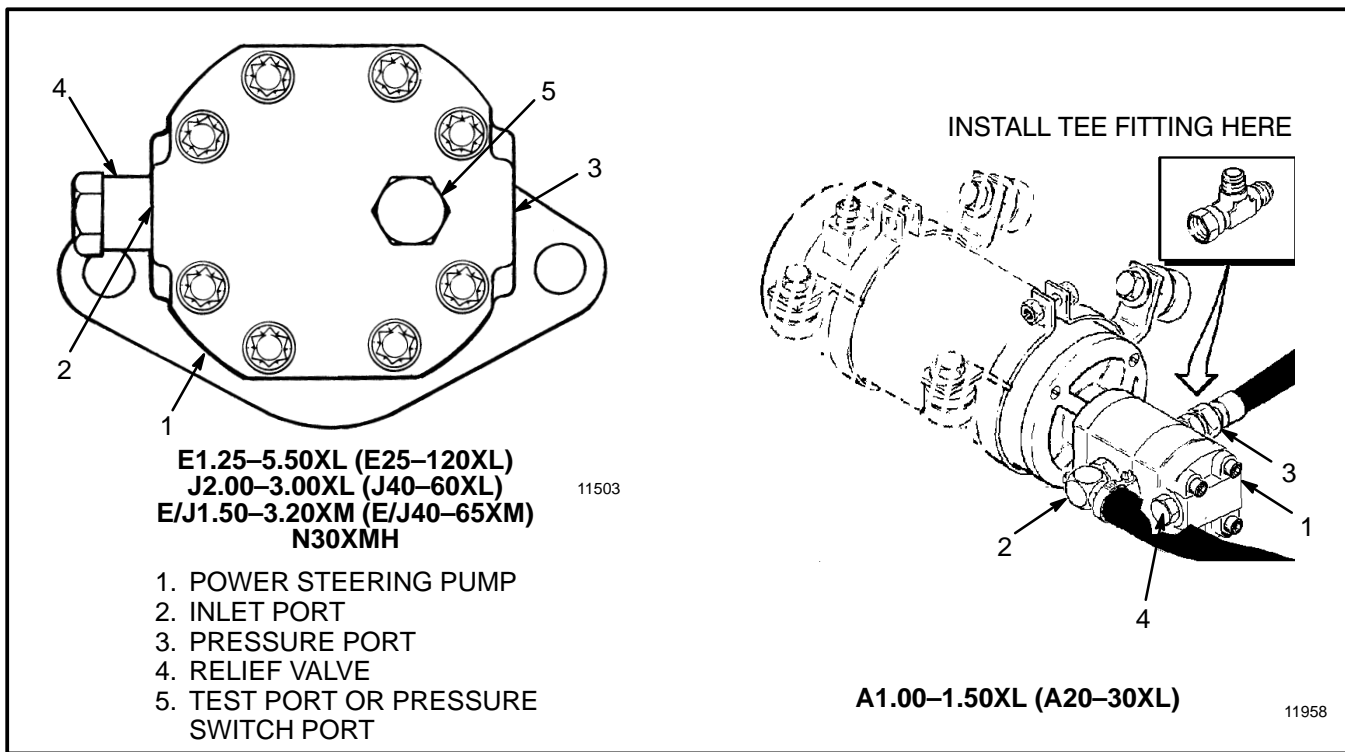

FIGURE 14. PRESSURE CHECK, STEERING SYSTEM
- a. Temporarily remove the pressure switch at the power steering pump if there is no pressure check fitting. See FIGURE 14.
- b. On A1.00-1.50XL (A20-30XL) units, install a Tee fitting in the outlet of the pump. See FIGURE 14.